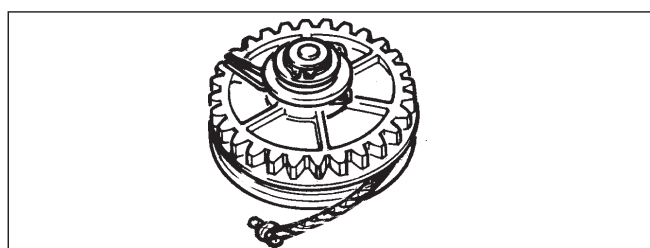

Fig. 12
- For further disassembly remove central fixing screw (3) and remove pulley assy. (Fig 12).